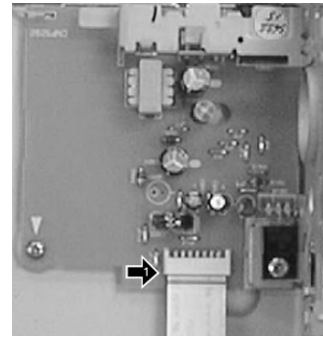

Fig.6
-  1 Disconnect the connector and then remove the CD Mechanism Module(Fig.6).